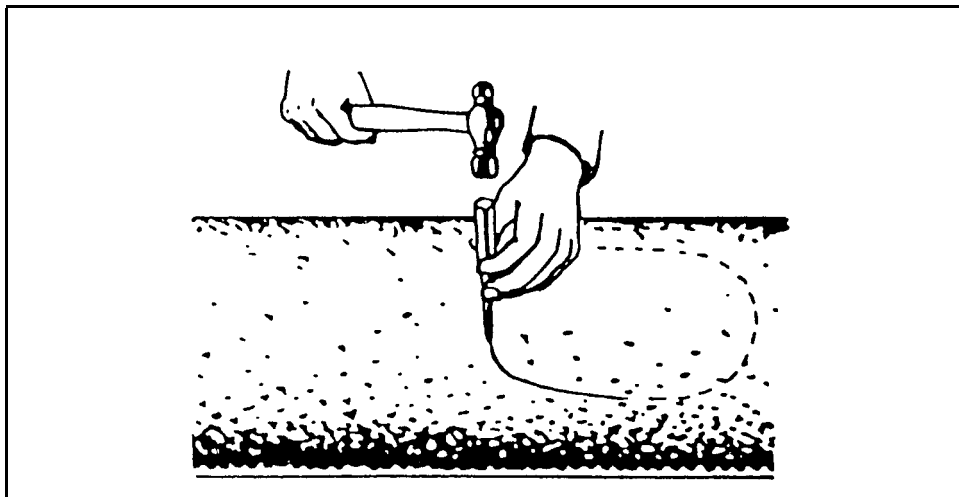

Figure 1-6. Cutting a Hole in the Main Sewer
**Step 3.** Make the cut on this line with a small, cold chisel and an 8-ounce ball peen hammer, as shown in *Figure 1-6*. Use light blows to prevent damage to the main sewer.